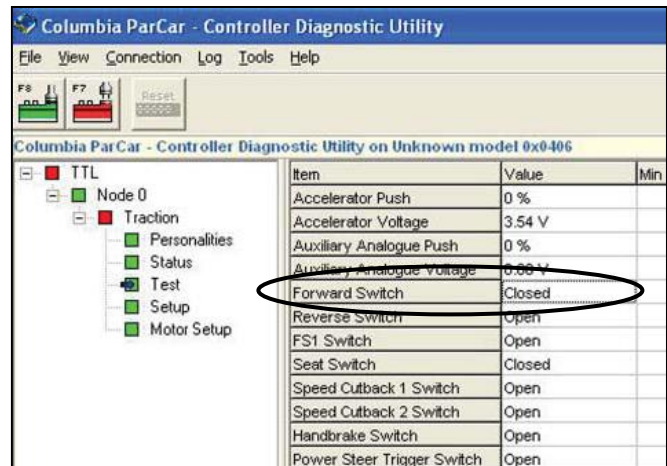

Figure 4-6
5. Check the “Seat Switch” item and value (Figure 4-6). For vehicles equipped with a seat switch, the value should read “open” when the operator seat is not occupied, and “closed” when the operator seat is occupied. If the switch fails to close, check the wiring from the B- post of the controller to the seat switch, test the seat switch with a VOM, and check the wiring back to the controller (pin 5). For vehicles without a seat switch, the value should read “Closed”. If the switch does not register as closed, check the black 5 wiring from the B- post of the controller to controller plug (pin 5).